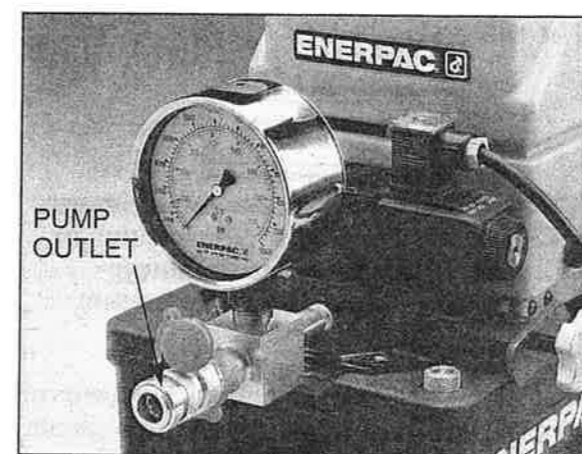

Figure 2 - Pump Outlet
1. Couple hose to pump outlet shown in Figure 2. BE SURE to use hose marked "ENERPAC 800 SERIES - 800 BAR/11,600 PSI MAX".